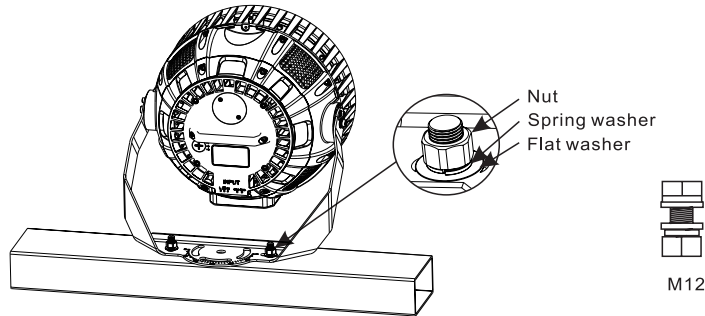

Figure 5
3. Install the luminaire on the crossbar and secure it with nuts, spring washers and flat washers (Figure 5).